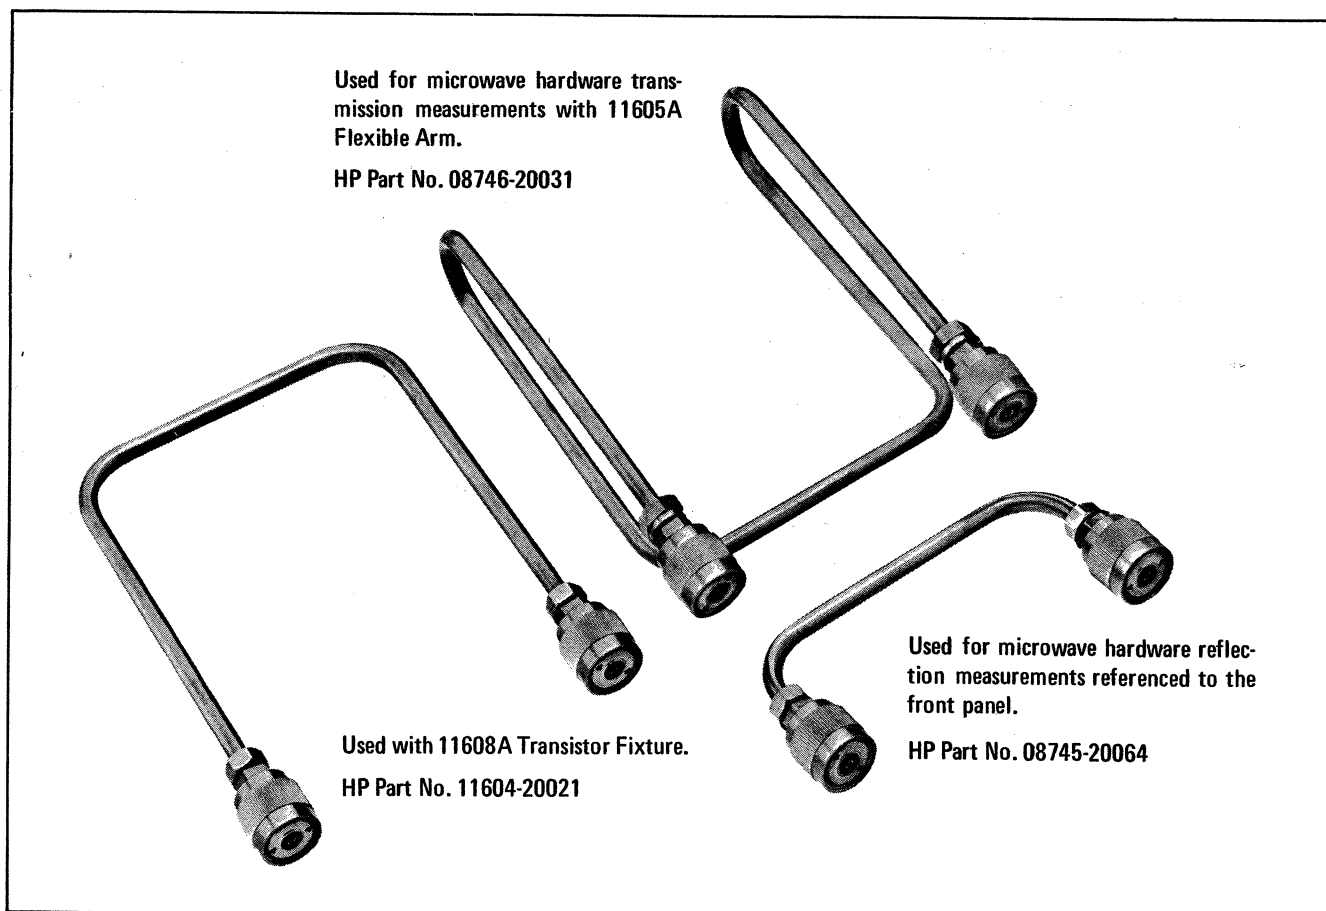

Figure 3-6. Reference Line Coaxial Patch Cables
a. If swept-frequency phase measurements are to be made, the reference and test channel line-lengths must be equal. The length of the reference channel is adjusted by varying the REFERENCE PLANE EXTENSION and the length of the REFERENCE LINE coaxial patch cable on the rear panel. The REFERENCE LINE can be removed and other length reference lines (see Figure 3-6) can be installed to approximately equalize the test and reference channel line lengths. To best utilize the REFERENCE PLANE EXTENSION range, install one of the following REFERENCE LINE coaxial patch cables: